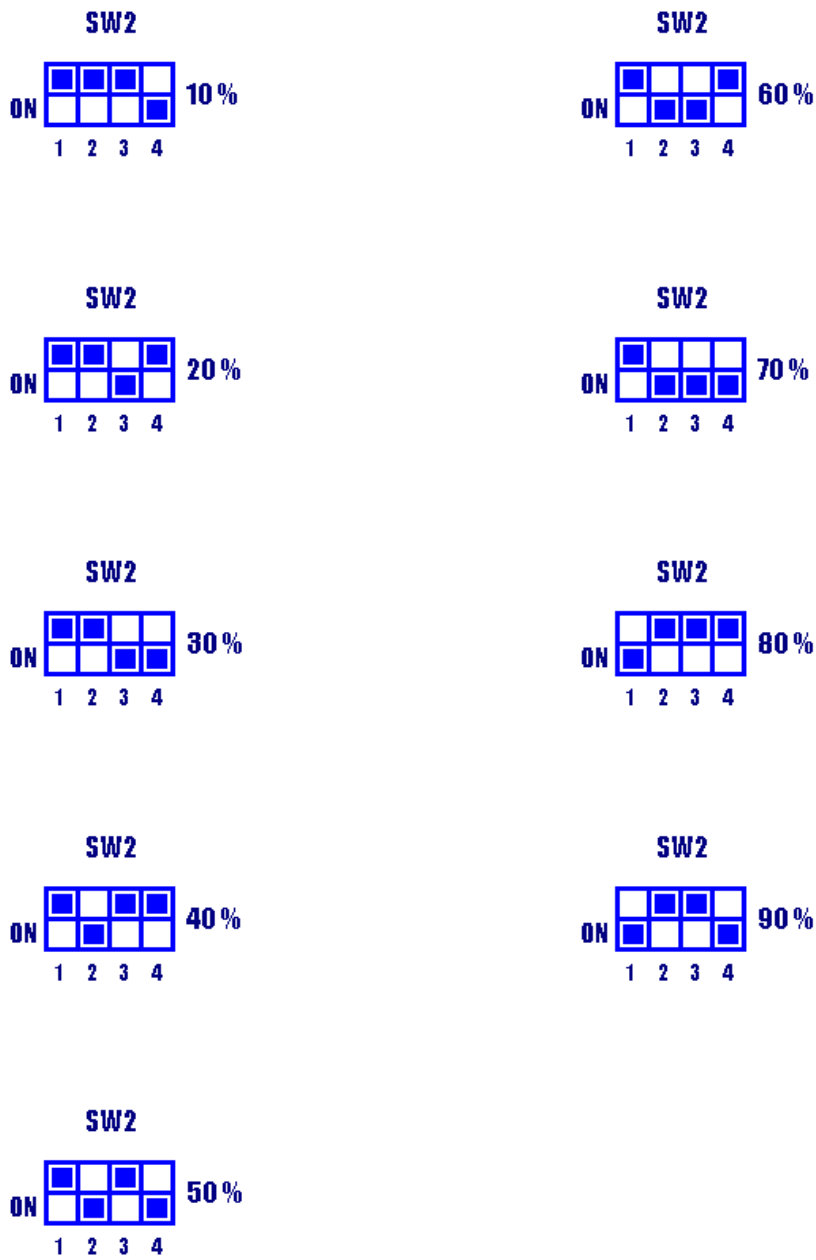

FIG.3.2 DUTY CYCLE SELECTION SWITCH
5. Using clock selector switch **S1** select **8 KHz** sampling frequency. Using switch **SW2** select duty cycle as shown in the switch setting diagram. (Fig. 3.2)
7. Take observation as mentioned below for variation of duty cycle from 10 % to 90 % in steps of 10% as shown in switch setting diagram. (Fig. 3.2)